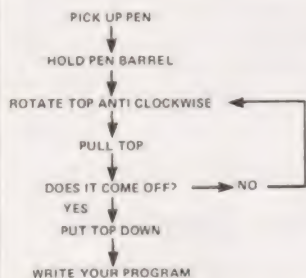
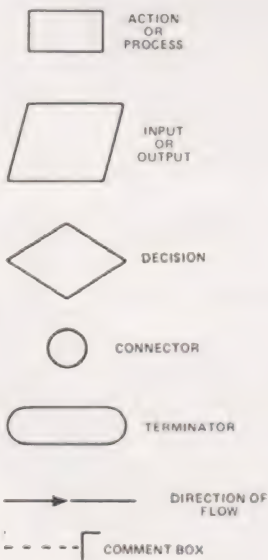
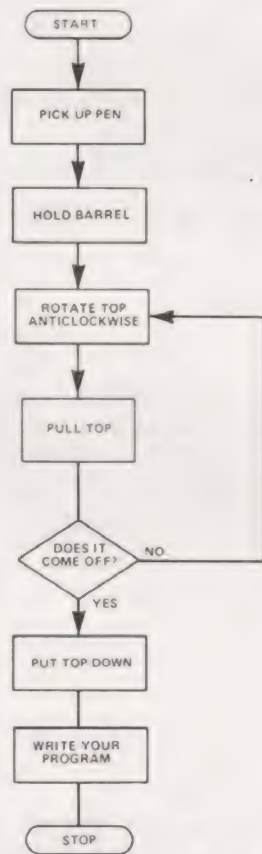

Fig 1. The simplest flowchart format.
Fig 2. The standard flowcharting symbols.
Fig 3. Figure 1 redrawn using the standard symbols.
program. The simplest form of flowchart is shown in Fig.1, it uses no special symbols, and is really an extended version of the basic algorithm.
As regular readers will know, our flowcharts contain lots of pretty little boxes which must mean something, and indeed they do. In Fig.2 I have listed all the common types and their designated functions. This is only a small selection of the available symbols but for most purposes it will be quite adequate. As is only to be expected there is a Standard for these symbols and for those of you who like such things it is BS 4058 Part 1:1966.
Having taken a look at the available set of symbols we can now re-write our simple flowchart in acceptable form, this is shown in Fig.3. For the actual task of converting it into a given language this will be quite sufficient, regardless of which language is to be used. A problem of this staggering complexity doesn't really deserve a flowchart at all, and indeed most proficient amateur programmers are quite capable of coding up large programs from a simple set of rules, or even the basic algorithm.
Figure 1 shows the circuit of an analogue to digital converter controlled by a processor system which can convert any voltage between 0 and +2V5 to a binary number for use by the CPU. The converter IC (Ferranti ZN427) uses the successive approximation method to convert the analogue input signal into a digital 8 bit code in a time period equal to 9 clock pulses. With a clock input frequency of 500 kHz, (2 μ S), a conversion cycle would take 18 μ S. To start the conversion cycle the processor system connects a pulse of at least 500 nS duration to the SC input (which also resets the converter) and after a delay greater than the conversion time (generated by the program) the processor reads the data by connecting a high condition to the OE input which gates the encoded data to the data bus via the tri-state outputs. The converter also connects a high condition to the EOC output (End Of Conversion) when the data is ready to be read and this signal could be monitored by the CPU instead of using a delay period although this would require another input to the processor system.
Figure 2 shows the circuit of a joystick control which has been used in conjunction with a processor system for TV games, VDU control, etc. The potential at the slider of each potentiometer varies depending on the position of the control. The processor gates each potentiometer in turn to the converter, stores their positions in digital form in memory and then processes the information as required. CMOS transmission gates are used to connect the potentiometers to the converter and these are enabled by addressable latches which are switched by the CPU under program control. The start conversion (SC) pulse can also be used to set the appropriate latch to connect the required potentiometer to the converter could be used to reset the latches (as shown) or the required latches could be reset by another output instruction via the
tial for the R_{ext} input can be provided from the positive 5 volt supply using the diode pump circuit of Fig.3 that is published in the Ferranti data sheet. Since the negative supply current is only in the order of 25–150 μ A, this circuit could be used to power several converters.
The three circuit diagrams for the converter project. Fig 1 is the A to D converter section, Fig 2 is the optional joystick controller for games applications and Fig 3 is the negative voltage generator.